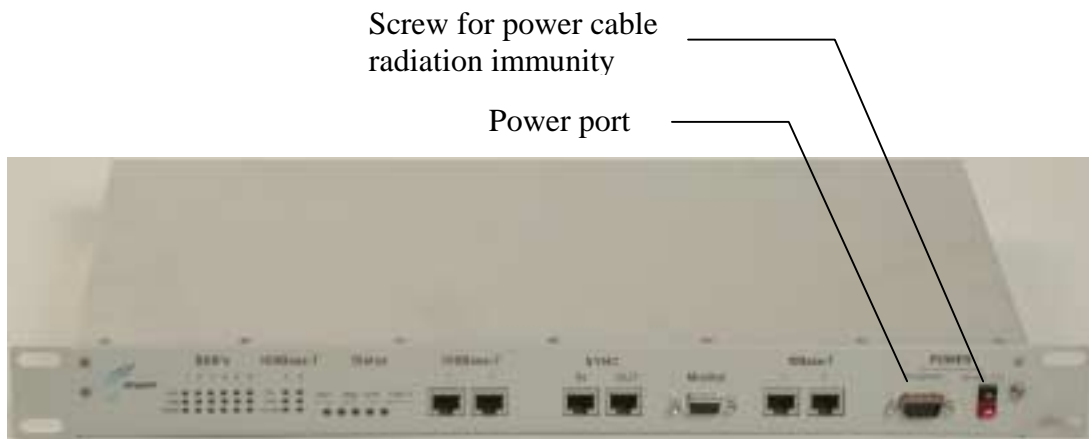

Figure 7-8: BSDU front panel with power port and screw attachment for power radiation immunity
2. Connect the power cable's yellow/green lug wire, for radiation immunity, to the BSDU chassis by using the screw attachment located alongside the power port, as displayed in Figure 7-8.